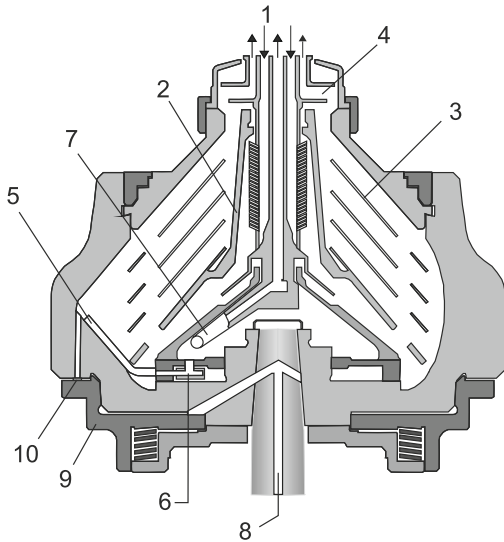

Fig. 1 Typical bowl drawing for a vortex nozzle centrifuge. Drawing details do not necessarily correspond to the centrifuge described.
The feed containing the liquid and the solids is introduced to the rotating centrifuge bowl (fig 1) from the top via a stationary inlet pipe (1), and is accelerated in a distributor (2) with disc inlet before entering the disc stack (3). It is between the discs that the separation takes place.